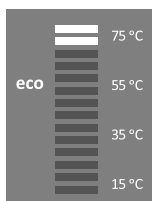
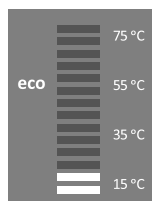

Fig. 10a: Anti-Legionella program activated
Fig. 10b: Anti-Legionella program deactivated
Press and hold (3 seconds) the **[1]** key to switch off the heat pump. The electronic controls switch to standby mode. Press the **[1]** key briefly for seven (7) times to display the current anti-Legionella function status. The function status is indicated by LED1 or LED7. If LED1 is lit, then the anti-Legionella program function is switched off (Figure 10b). If LED7 is lit, then the anti-Legionella program function is switched on (Figure 10a). Briefly press the **[1]** key again to change the setting. The setting is stored when the **[1]** key is not pressed for 5 seconds. The electronic controls return to standby mode. Press and hold (for 3 seconds) the **[1]** key to switch on the appliance again.